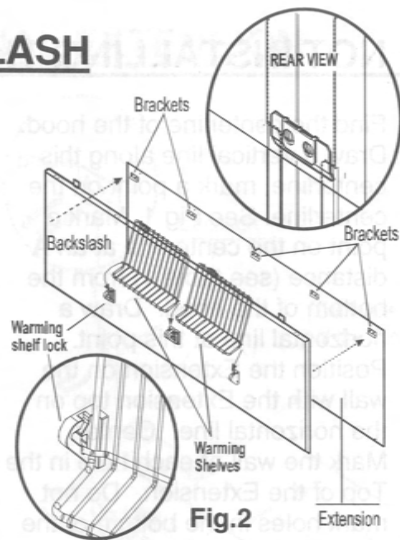

Fig. 2
- 3) Slide the Backsplash down onto the Brackets on the wall (see Fig 2)
- 7) Fit the two warming shelves onto the warming shelf locks (see Fig 2). Confirm function of shelves by raising, rotating, and checking locking function at both the up and down positions.